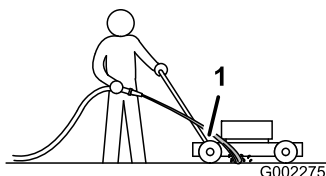

Figure 36
3. Hold the running garden hose at handle level and direct the water to flow on the ground just in front of the right rear tire (Figure 36).